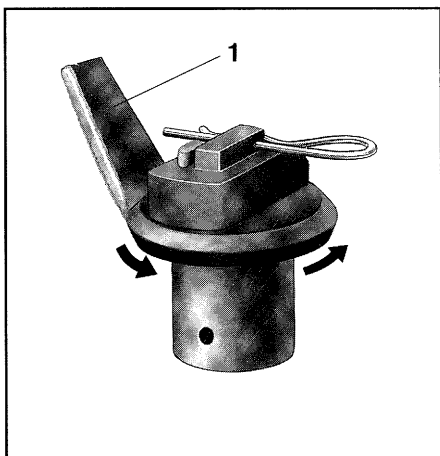
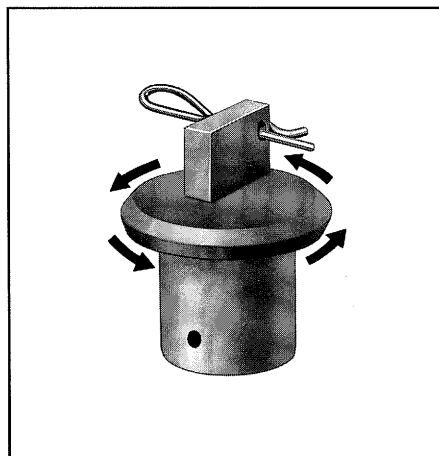

Fig. 8.1
Fig. 8.2
13. If in spite of an equal shutter position an uneven emptying of the two hopper halves is noted, check the main shutter position (please refer to para. 9.0 item 6).
15. The agitator heads (Fig. 8.1) rotating in reverse direction in the hopper provide an even fertiliser flow onto the spreading discs. With some spreading materials, e. g. some kinds of urea or green manure seed the extension (8.1/1) has to be taken off the agitator head and the clip pin has to be inserted in reverse rotation (Fig. 8.2) (Note hints in the setting chart).